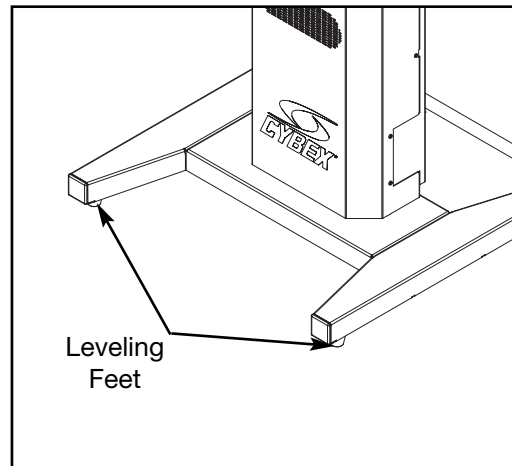

Figure 11
- C. Locate the leveling feet at the front of the unit. See Figure 11.